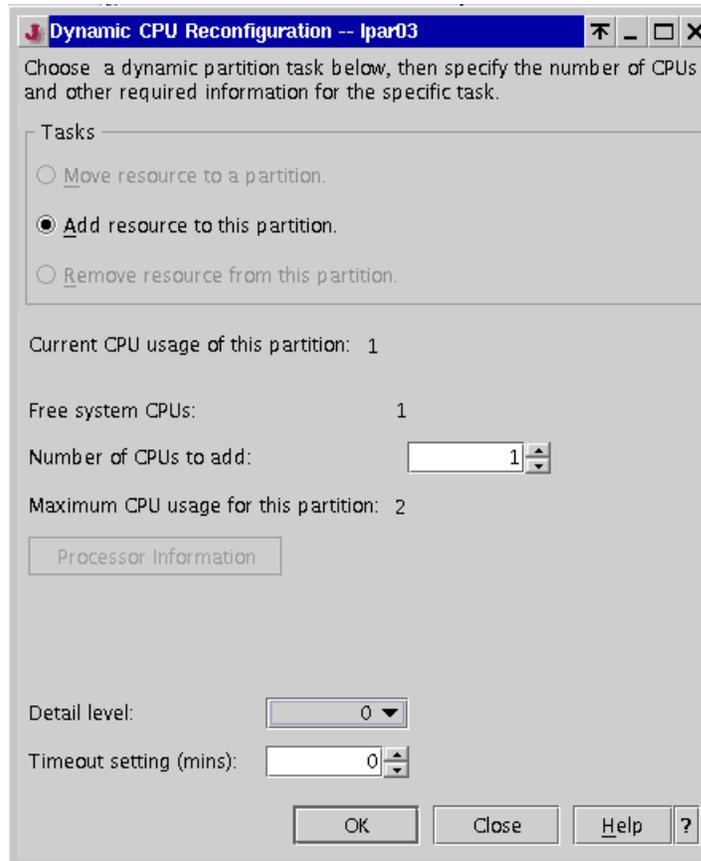

Figure 8-2 Dynamic CPU addition to a partition
8. The Dynamic CPU Reconfiguration window opens. Select **Add resource to this partition**, as shown in Figure 8-2.